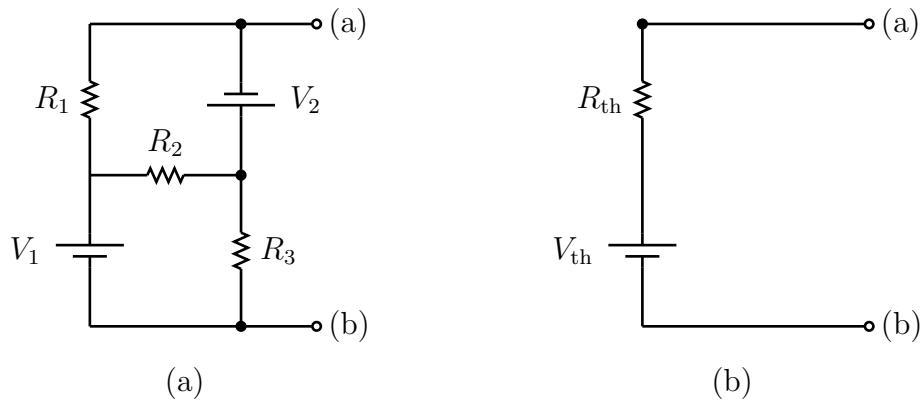

Figure 3.1: The circuit (a) you will be building in lab and it's (b) Thevenin Equivalent.
1) Determine an equation for the Thevenin equivalent voltage V_{th} and resistance R_{th} from the values V_1, V_2, R_1, R_2, R_3 for the circuit shown in Fig. 3.1. Hint: Use the superposition principle. Find the equivalent resistance by setting the voltage V_1 and V_2 to zero, i.e. shorting them in the circuit. Then calculate two contributions to the Thevenin voltage, one with V_1 set to zero and one with V_2 set to zero. The actual Thevenin voltage is the sum of these two contributions. Play close attention to the polarity of V_2 as drawn, i.e. that a positive value of V_2 tends to make the voltage V_{ab} negative.
Build the circuit in Fig. 3.1 using $R_1 = 3.3 \text{ k}\Omega$, $R_2 = 4.7 \text{ k}\Omega$, and $R_3 = 3.9 \text{ k}\Omega$. Supply $V_1 = 10 \text{ V}$ and $V_2 = 5 \text{ V}$ using your two channel bench-top power supply. In the diagram, the supplies are not referenced to ground or each other, so make certain that your supply is set to provide independent outputs and do not add any jumpers to ground. Take careful note of the polarity of the supplies, so